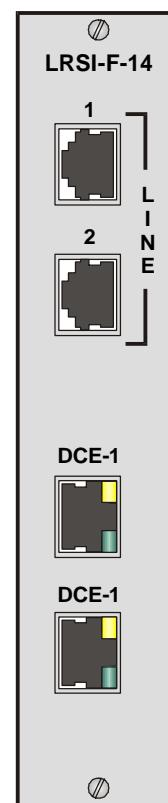

Figure 2-3. LRSI-F-14
- **LRSI-F-14** – IR-ETH, IR-ETH/QN, see *Figure 2-3*.